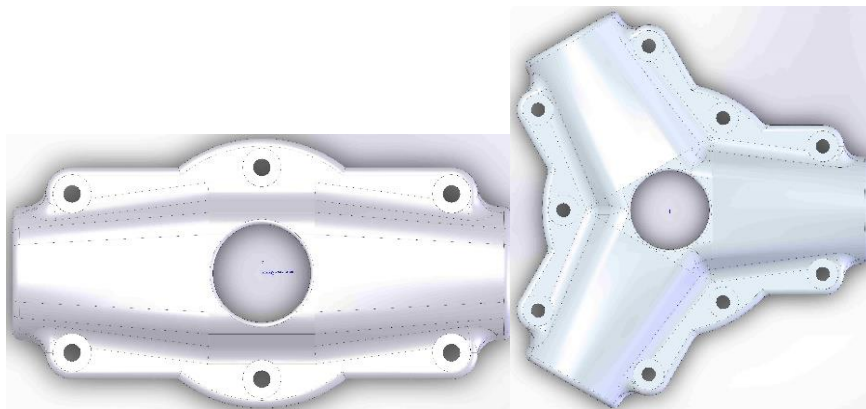

Figure 3. Hub Models 2A1R5 and 3A0B7, respectively
- Model 2A1R5 and 3A0B7 hubs with long blade shanks are not affected. While they do incorporate the white pitch cylinder, the blade retention geometry is significantly longer and different from the compact 2A0 series so that this service bulletin does not apply. See Figure 3.